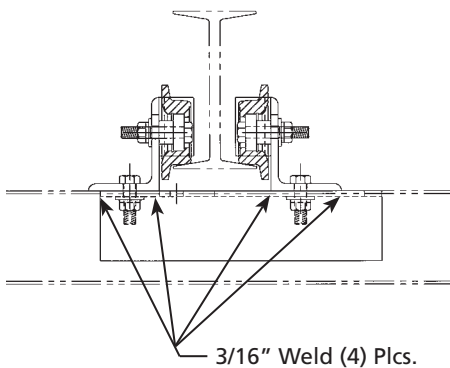

Figure 7 — Weld Locations
6. Have a certified welder weld span-beam stops to I-beam and weld on each end of the end truck in four (4) places (See Figure 7).